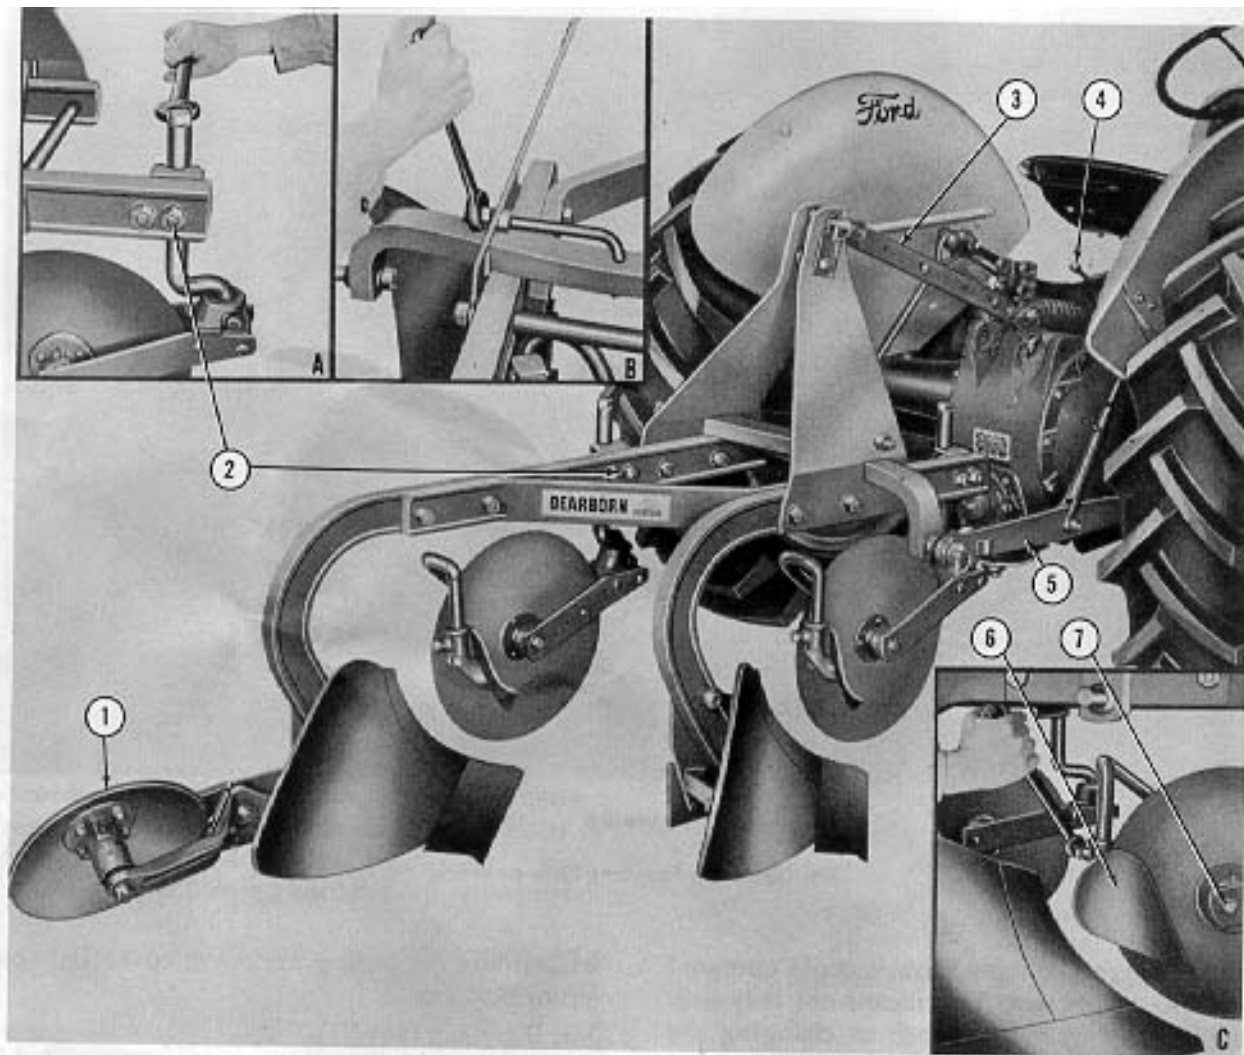

Figure 25
Width of Cut: To adjust the plow frame for width of cut loosen and tighten the hex nuts on the adjusting arm as shown in the insert "B", Figure 25. This adjustment of the arm slides the drawbar laterally in the "A" frame.
Side Tilt: The plow side tilt is adjusted by turning the leveling crank (4), Figure 25, which raises or lowers the tractor right hand lift link (5). This adjustment is necessary to level the plow and to set the plow at an angle when finishing a land, striking out a land, making a scratch furrow, or in forming terraces. Under
When making headland furrows, the plow should be tilted to the left with the leveling crank (4), Figure 25. The headland furrow should be turned toward the area to be plowed. Allow adequate room for turning between fence and headland furrows.